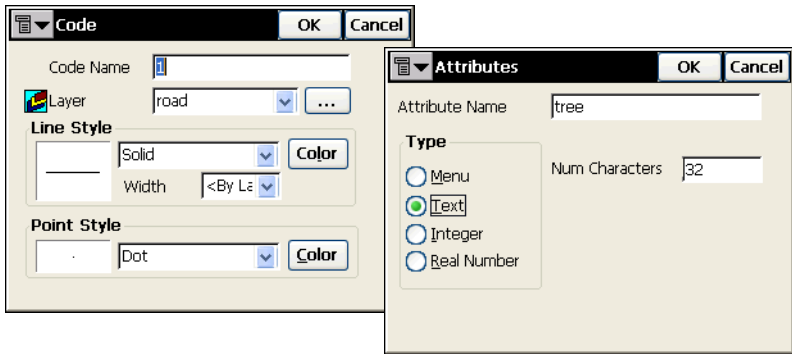

Figure 4-20. Edit Codes / Attributes
- points with this code on the selected layer (Figure 4-20). Tap **OK**.
- To define the attributes for the new code, select the code and tap the **Add** button on the right side of the screen. Set the name, type, and parameters of the attribute for the code in the *Attributes* screen. Attribute type indicates whether attribute values can be selected from a list of available values (Figure 4-20), or are alphanumeric strings, integers or real numbers. Tap **OK**.
- To edit a code or attribute, double-tap the object or select it the corresponding **Edit** button. In the *Code* or *Attribute* screen, make changes and tap **OK** (Figure 4-20 on page 4-17).